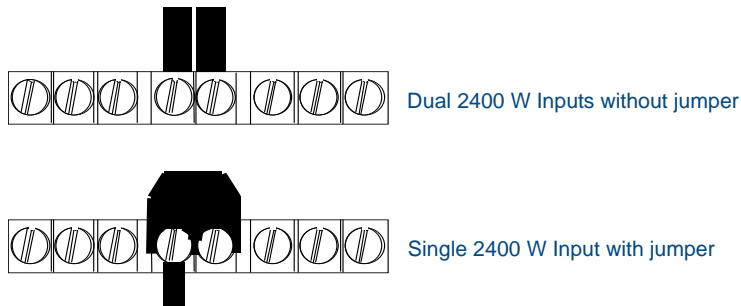

FIG. 7 Line-In Connections for the RE-DM6
- Jumping Line 1 and Line 2 provides a single 2400 W input (FIG. 7)